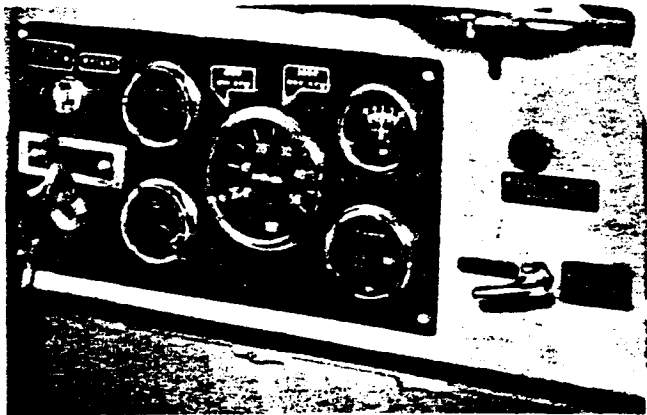

Fig. 1
- A. Operate the engine at half speed, no load, for two minutes. Set the throttle at idle and pull the engine stop button. (See Figure 1.)